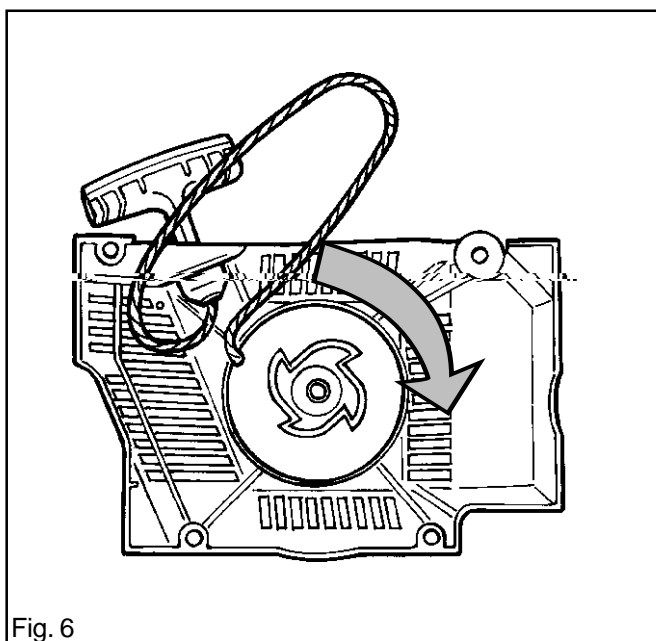
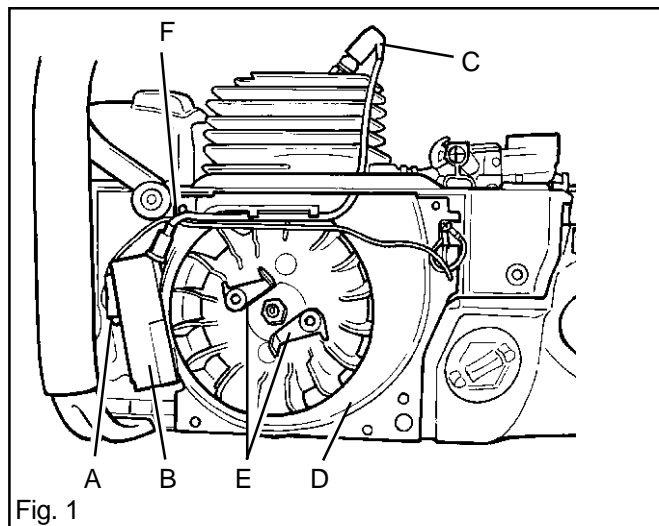

Fig. 6
Fig. 1
7. Wind the cord onto the starter pulley and rotate the pulley clockwise until the cord is correctly tensioned. See below and fig. 6.
2. Release the blue lead (A) (which connects to the stop button) from the ignition module (B). See fig. 1.
3. Remove the ignition cable (C) from the spark plug and release both cables from the cable guide (D), and lift off the cable guide. See fig. 1.
4. Remove the two M5 bolts and lift off the ignition module (B). See fig. 1.
5. Remove the two pawls (E) for the starter. See fig. 1 and fig. 6.
3. Fit the two pawls on the flywheel. See fig. 6.